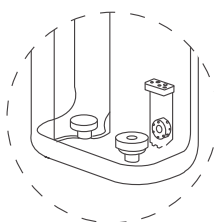

Figure 9
(3) After cleaning, insert the floating ball into the groove. Then put on the floating ball silicone cover and filter screen covers tightly, as shown in the figure. **(Figure 9)**